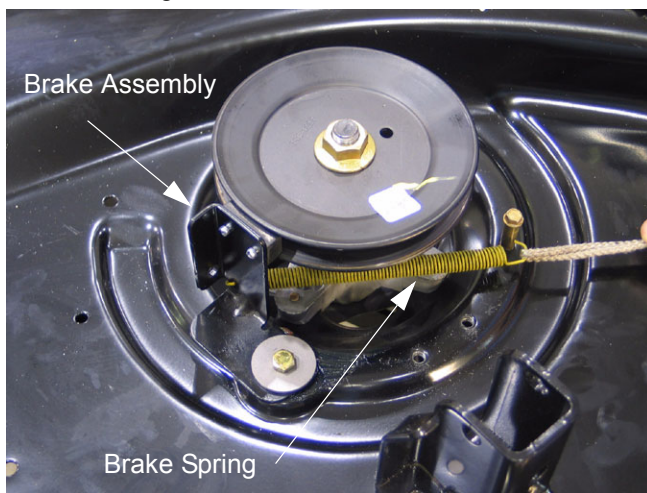

Figure 13
- 4.1. Remove the brake spring attached from the deck frame to the brake assembly at the right spindle. See Figure 13.